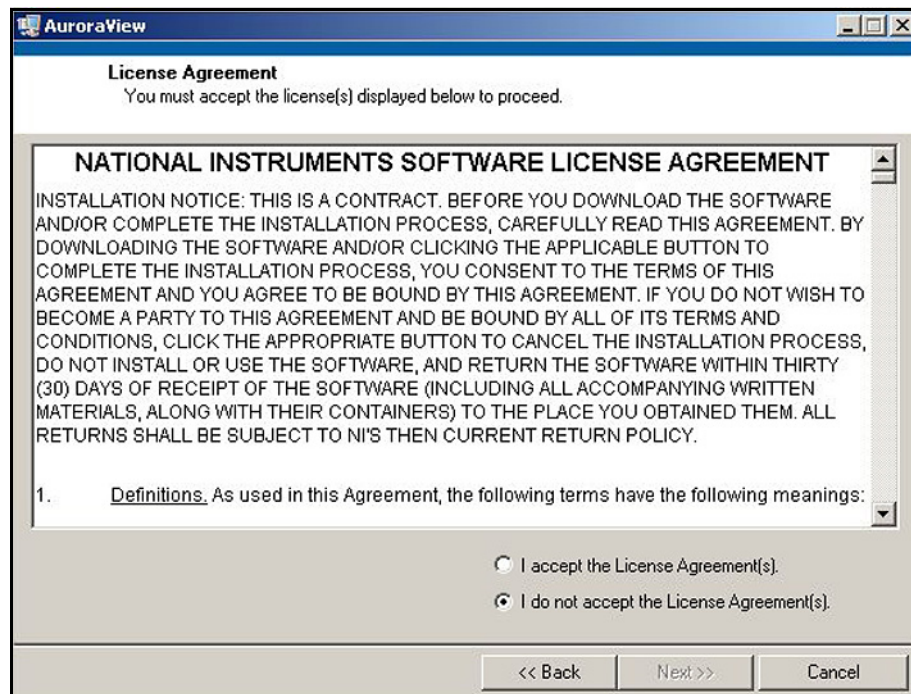

Figure 55: Software License Agreement
5. The next screen (see *Figure 55* below) provides the opportunity to change installation locations if desired. When ready, click **Next**.
6. At the next screen, accept the *Software License Agreement* (see *Figure 55* below) and click **Next**.